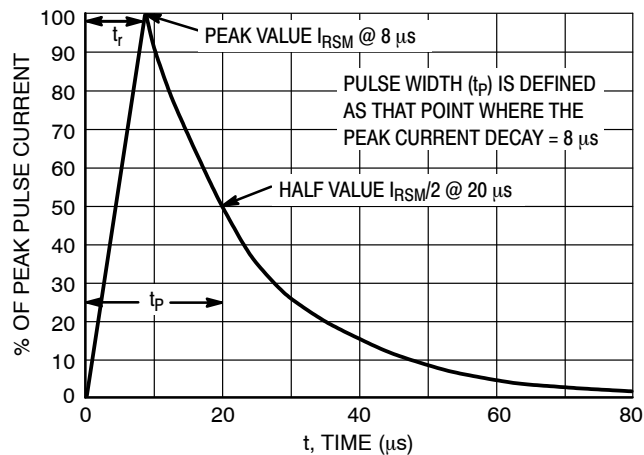

Figure 5. 8 x 20  $\mu$ s Pulse Waveform
1. Non-repetitive current per Figure 5.
4. Surge current waveform per Figure 5.